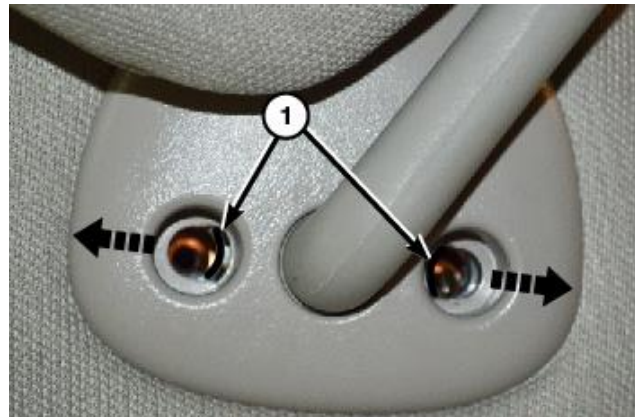

Figure 56 – Visors
Using a small flat bladed tool or equivalent, release the retaining tabs (1) and separate the visor from the headliner (Figure 56).